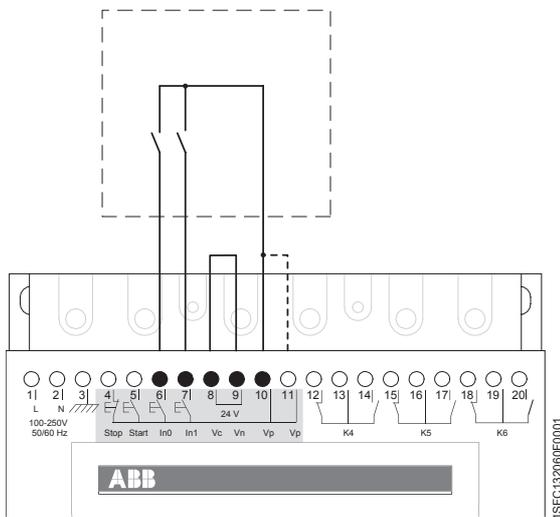
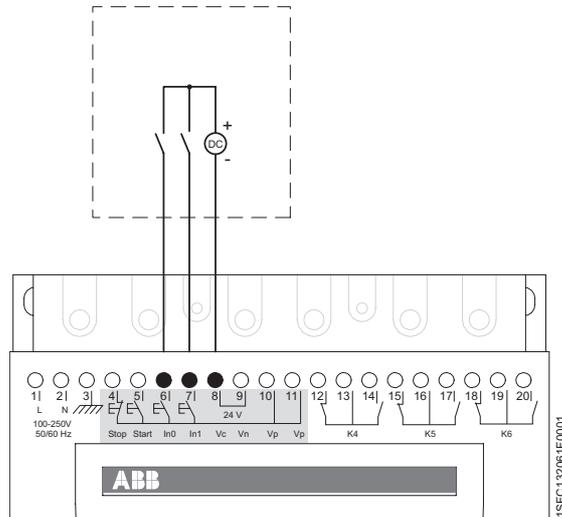

Figure 18: Internal control voltage
Figure 19: External control voltage
1. Connect the cables according to Figure 18 or Figure 19 depending on whether internal or external source is used.